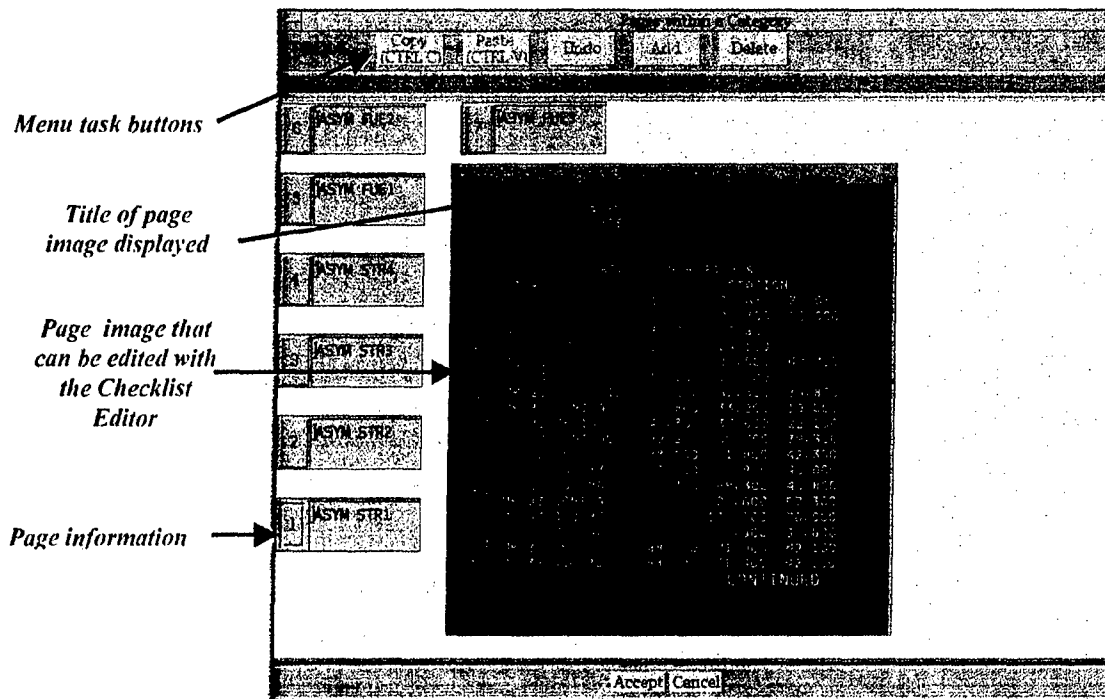

Fig. 44 — Page Manager
3.3.6.3.3 Page Manager — Pages within a category are viewed, managed, and edited by the Page Manager, which is invoked by double-clicking on the desired category button in the Category Manager window. By default, the first page is selected. A selected page is identified with a shadowboxed button and displayed in the centered view area. Figure 44 shows seven pages that are contained within the ASYM category with the first page selected.